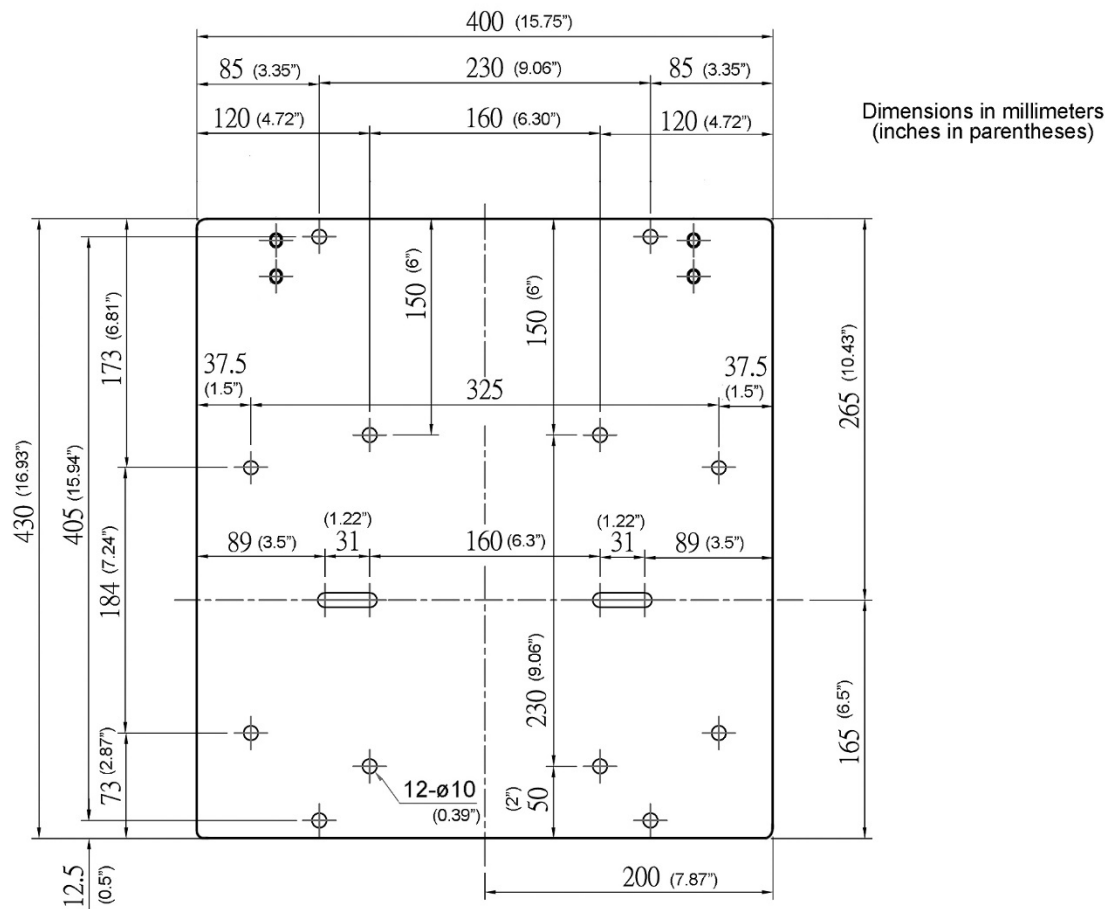

Figure 2: Hole pattern on adaptor plate (OPTIONAL ACCESSORY p/n 414830)
**Carton contents** (see Figure 2)